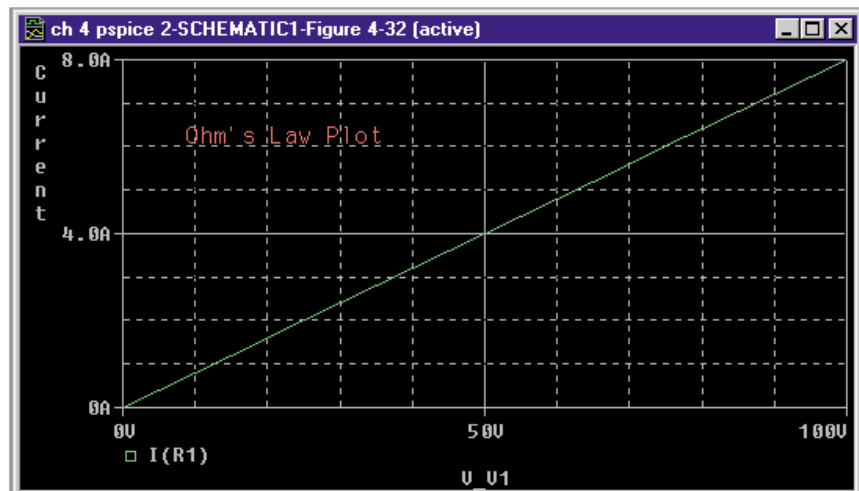

FIGURE 4–32 Ohm’s law plot for the circuit of Figure 4–27.
- Click the Current Marker icon and position the marker as shown in Figure 4–31. Click the Save Document icon to save your work. Click the Run icon. The Ohm's law plot of Figure 4–32 appears on your screen. Using the cursor (see Appendix A), read values from the graph and verify with your calculator.